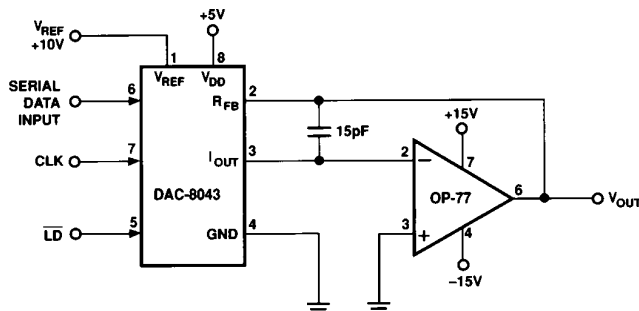

Figure 5. Unipolar Operation with High Accuracy Op Amp (2-Quadrant)
1. Phase compensation (see Figures 5 and 6).
In most applications, linearity depends upon the potential of  $I_{OUT}$  and GND (pins 3 and 4) being exactly equal to each other. In most applications, the DAC is connected to an external op amp with its noninverting input tied to ground (see Figures 5 and 6). The amplifier selected should have a low input bias current and low drift over temperature. The amplifier's input offset voltage should be nulled to less than  $+200 \mu V$  (less than 10% of 1 LSB).
The circuit shown in Figures 5 and 6 may be used with an ac or dc reference voltage. The circuit's output will range between 0 V and approximately  $-V_{REF}$  (4095/4096) depending upon the digital input code. The relationship between the digital input and
1Nominal full scale for the circuits of Figures 5 and 6 is given by
2Nominal LSB magnitude for the circuits of Figures 5 and 6 is given by
The transfer function for the DAC8043 connected in the multiplying mode as shown in Figures 5, 6 and 7 is: